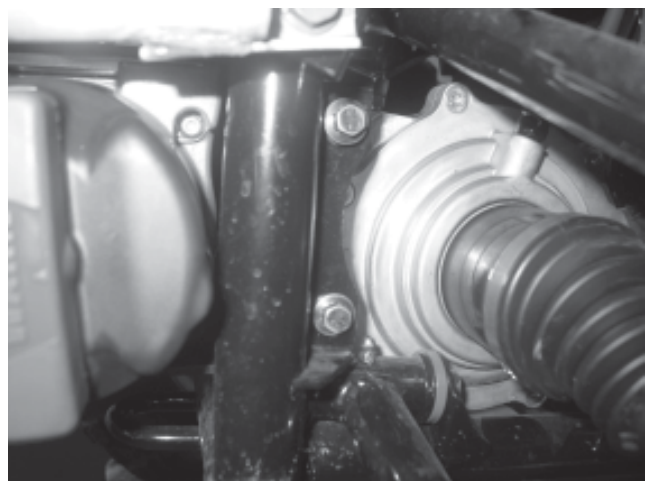

Figure 10
6. Place the WARN winch mount back on the vehicle mounting tabs and secure with bolts taken off in step 2. Do not tighten bolts all the way. The winch mount needs to move slightly to install the plow mount. (Figure 10)
8. Loosen the bolts securing the mount to the vehicle (Figure 10) so the winch mount is loosely attached. Remove the lower skid pan bolts. These will not be used in this kit.